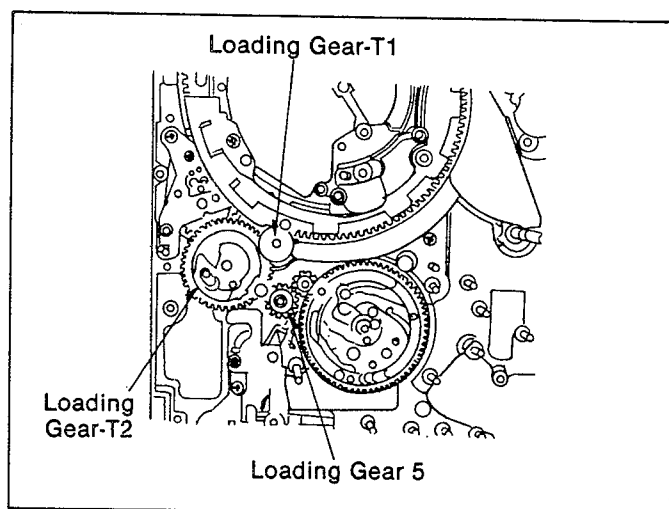

Fig. M10
- (4). Install the Loading Gear-T2 so that the mark on the the Loading Gear T2 is exactly in line with the mark of Loading Gear S as shown in Fig. M10 and M11.
- (5). Install the Loading Gear-T1 so that the mark on the Loading Gear-T1 is exactly in line with the hole of T-Rack Guide.
- (6). Install the Loading Gear 5.
- (7). Insert the Cut Washer to each Loading Gear when phase of each gears are collect.